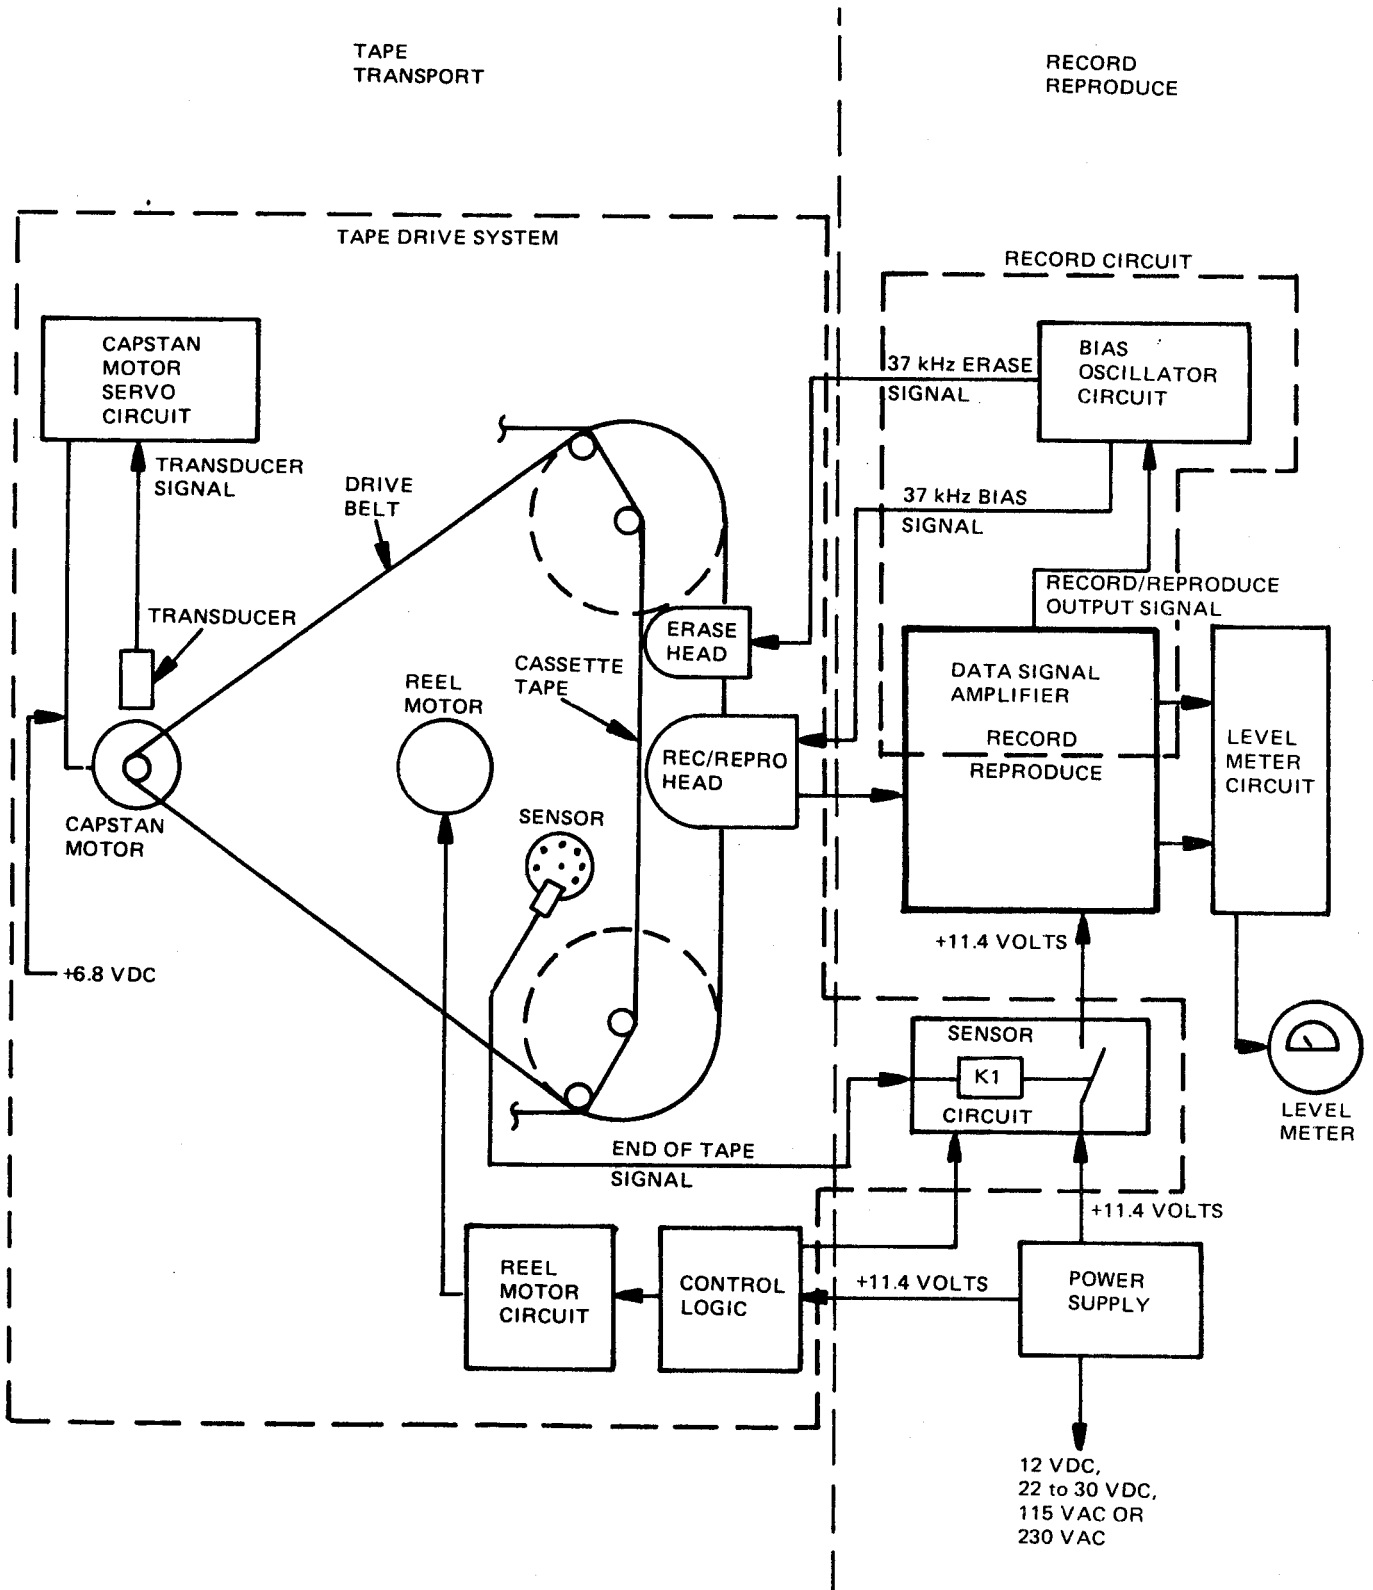
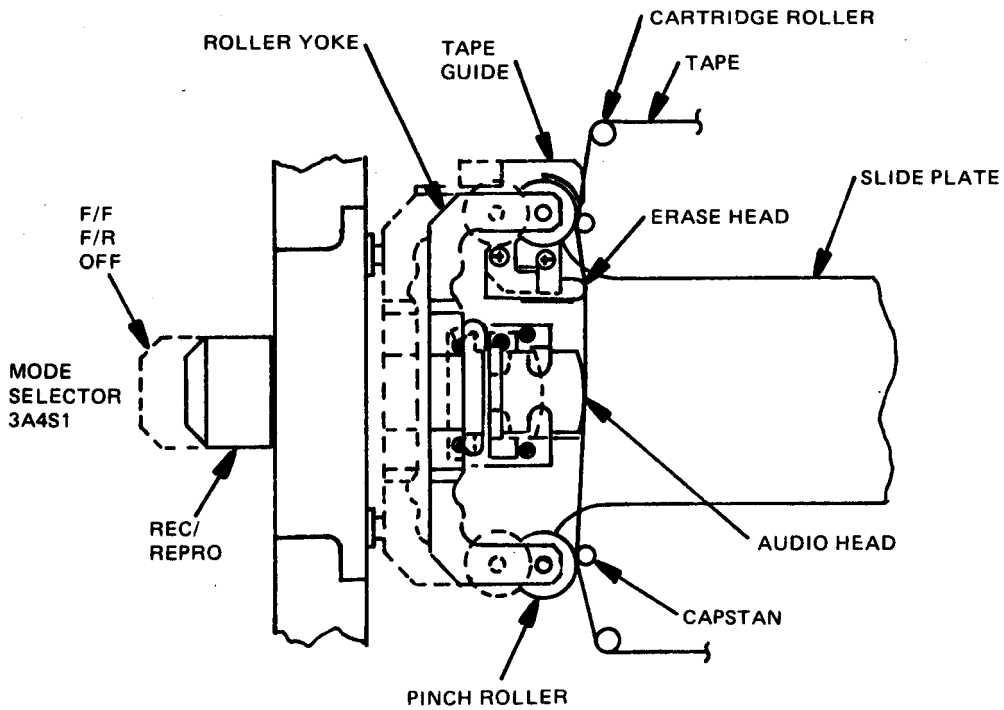

Figure 3-1. Recorder Simplified Block Diagram
Figure 3-2. Capstan/Pinch Roller Tape Drive
(1) Recording technique. Standard direct recording techniques are used in which a direct record amplifier records the time relationship of analog input signals directly on magnetic tape. Basically, the record circuit is composed of two sections: a data signal amplifier and a bias oscillator. The signal amplifier amplifies the input signal and provides a current source to drive the record head with signals proportional to the applied input signals. This creates, in the magnetic oxide coating of the tape, magnetic flux changes which correspond in intensity and timing to the input signals. Since the flux density in a magnetic medium does not vary linearly with the magnetizing force, the data signal is superimposed on a high frequency (38 kHz) bias signal to overcome the hysteresis nonlinearity of the magnetic tape. A symmetrical low distortion bias signal is adjusted to optimize system parameters such as frequency response, signal-to-noise ratio, and distortion. The data signal is adjusted for recording at normal record level (3 percent third harmonic distortion upon reproduction of a 400 Hz signal at an input record signal level of 0 dBm.) The bias and data signal record levels are both a function of the characteristics of the record head and the magnetic tape used and must be adjusted accordingly.
(2) Equalization technique. Two techniques are commonly used for direct recording of signals on magnetic tape. One of these, known as constant flux recording is used in instrumentation applications in which there is an equal probability of high level signals at any frequency within the passband to be recorded. For audio applications, in which the spectral energy of the signal to be recorded diminished with increasing frequency, a pre-emphasized or "pre-equalized" recording technique is used to allow optimum utilization of the recording medium. Pre-emphasized recording is the method used in this recorder.
(3) Recorder functional sections. Refer to figure 3-1. The recorder is functionally divided into the electromechanical tape drive system, the control logic electronics, the data signal electronics, and the plug-in power supply. The recorder, which is the major functional assembly, consists of a rigid chassis upon which all of the required electronic subassemblies and the mechanical tape handling subassemblies are mounted, enclosed in a protective housing. The chassis assembly and the control panel (which form an integral component) slide into the case and are secured by four screws. A gasket between the front panel and the case provides a moisture seal and electrical continuity to prevent RFI radiation. The chassis provides mounting facilities for an electromechanical capstan drive system, and electromechanical reel drive system, and the modular electronic circuits to control the tape handling components and signal processing.
(4) Tape drive system. The purpose of a recorder is to make a record on tape of signal data which may be recovered in its original form at a later date. This is accomplished by moving a magnetic tape past a record head. The input data signal changes the magnetic field generated by the head, which in turn changes the magnetic flux of the iron oxide particles on the tape in accordance with the applied signal. Data is then reproduced by moving the magnetized tape past a reproduce head to induce a voltage in head windings equivalent to changes in flux. Since, in analog recording the data signal is a function of the time and amplitude of the magnetic field, it is essential that the tape be moved past the reproduce head at the same rate it was moved past the record head originally. Therefore, the primary function of the tape drive system is to move the magnetic tape in a smooth and uniform manner past the record and reproduce heads to preserve the fidelity of the data signals with regard to time. This is accomplished by a dual capstan drive system when the unit is operated in the record or reproduce mode. In the modes F/F (i.e., Fast Forward) and F/R (i.e., Fast Reverse) the tape is moved by the reel drive system only and speed is not regulated.
(5) Capstan drive system. Refer to figure 3-2. The recorder uses a dual capstan drive to provide positive control of tape motion. During recording and reproducing, the tape leaves the supply reel (in cassette), is fed over a tape guide between the input capstan and pinch roller, and past a tape guide to the takeup reel (in cassette). The stability of the linear speed of the surfaces of the capstans determines the precision with which the tape is moved in the record and reproduce modes. For this reason, a capstan motor servo circuit (figure FO-6) is used to minimize speed changes of the capstan drive motor due to variations in torque loading supply voltage. The capstans are belt driven by the servo controlled drive motor and the pinch rollers clamp the tape to the capstans in the record and reproduce modes. Since the capstan drive pulleys have slightly different diameters, the capstans operate at slightly different speeds with the exit capstan rotating slightly faster than the input capstan. This differential speed produces a controlled tension in the head area which greatly reduces the possibility of tape-to-head separation during vibration, shock, or acceleration. The mode selector switch on the front panel is mechanically attached to the slide plate assembly so that the pinch rollers are engaged and the audio head is in contact with the tape when the record or reproduce modes are selected. When the mode selector switch is in the F/F mode, F/R mode, and OFF mode, the pinch rollers and head are retracted and tape movement is controlled by the reel motor drive system.